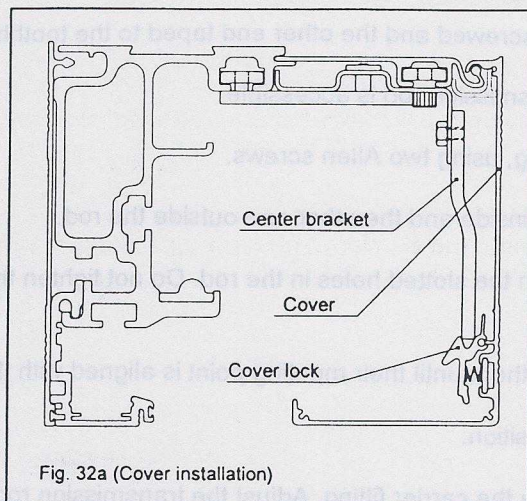

Fig. 32a (Cover installation)
1. Fix the center bracket in the pre-drilled holes in the drive module in the center of the door opening (see fig. 32a and 33a.). **Note!** Only valid for bi-parting door operators.